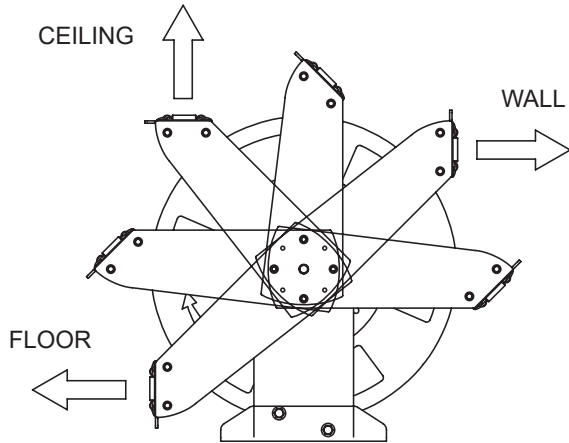

Figure 3
3. To move the hose guide arm and the hose outlet mouth, remove screws I (figure 3), place arm and outlet in correct position and replace screws again.